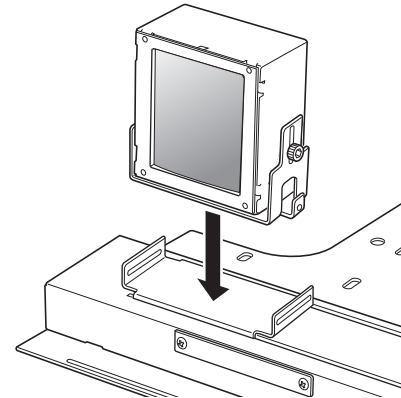

Figure 24
1. Attach the anamorphic lens unit to the main unit at two locations by passing the supplied decorative screws (M3 x 8) through the spring washers and flat washers. Refer to Figure 24 and 25. When mounting the lens unit, be sure to mount it so that the anamorphic lens unit does not strike the projector lens when in the operating position.